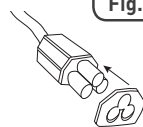

Fig.1
- ⚠️ ALS DE KACHEL IN EEN RUIMTE WORDT GEBRUIKT WAAR HIJ IN CONTACT MET WATER KOMT, EN OM ERVOOR TE ZORGEN DAT DE IP44 CLASSIFICATIE BEHOUDEN BLIJFT, DIENT ER ALTIJD VOOR GEZORGD TE WORDEN DAT HET ELEKTRICITEITSSNOER IS VOORZIEN VAN DE ZWARTE FOAMPACKING AAN DE CONTACTZIJDE VOORDAT DE SLIMLINE KACHEL OP HET ELEKTRICITEITSNET WORDT AANGESLOTEN [FIG. 1]